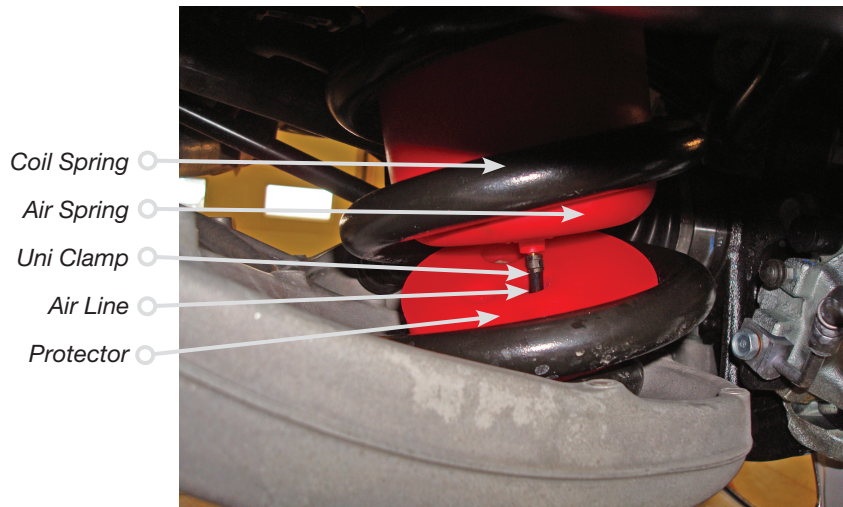

fig. 5
- Remove the plastic cap from the barbed stem on the end of the air spring. Exhaust the air from the air spring by rolling it up toward the barbed stem. Replace the cap on the stem to hold the flat shape (Fig. 5). Fold the air spring into a “hot dog bun shape.”